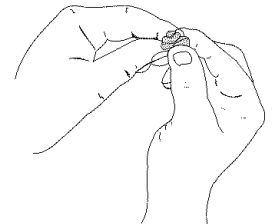

Fig. 21
5. Squeeze the filter to spread and remove excess oil (Fig. 21).